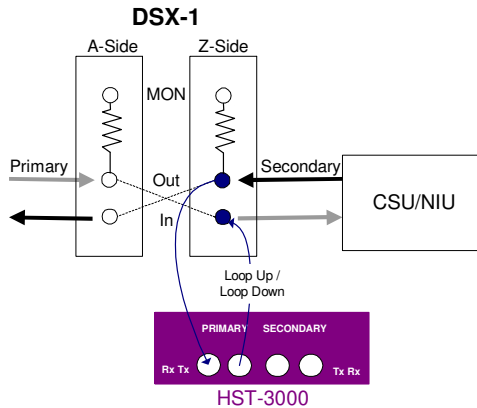
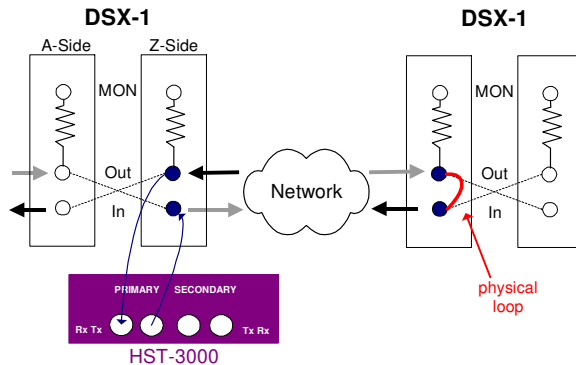

Figure 5 Loopback Connections
Figure 6 End-to-end connection
- 11 If you are performing an end-to-end test, skip to step 13. If you are configuring a loopback test, connect the HST to the test access point (see Figure 5):
- Connect the HST T1 Tx Primary jack to the DSX-1 TX (IN) jack.
13 If you are performing an end-to-end test, connect the HST-3000 to the test access point (see Figure 6):
- 8 Connect the HST to the test access point. See Figure 5 on page 43 or Figure 6 on page 44.